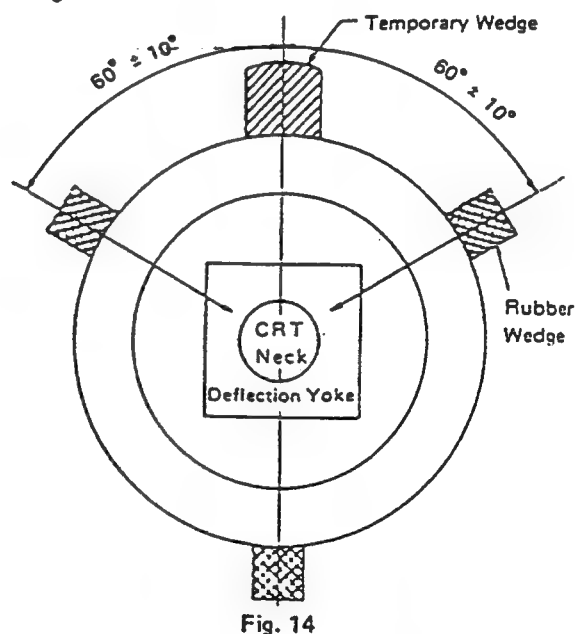

Fig. 14
4.15 Precise Adjustment of Dynamic Convergence (See Figs. 14 and 15)
4. Insert three rubber wedges to the position as shown in Fig. 14 to obtain the best circumference convergence.
- 4) The angle of each rubber wedge is shown in Fig. 14.